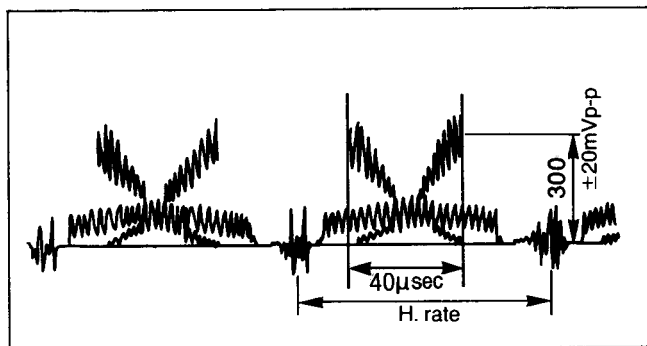

Fig. C11
- (1) Aim the camera at the gray scale chart.
- (2) Connect the scope to TP2 and trigger with Pin 12 of B302 (H-Rate).
- (3) Adjust the Camera Unit to obtain 40usec as shown in Fig. C11.
- (4) Adjust the AGC Control (VR304) so that the signal level is 0.30V $\pm$ 0.02Vp-p.